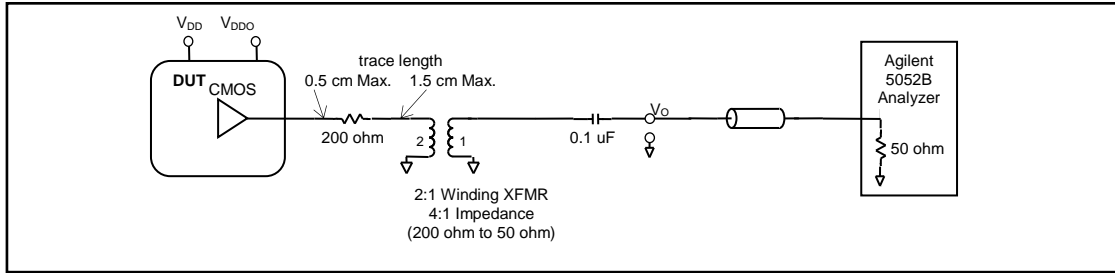

Figure 51. HPOUT (LVCMOS) and GPOUT (LVCMOS) Output Jitter Test Circuit
* The jitter test circuit is shown in Figure 51